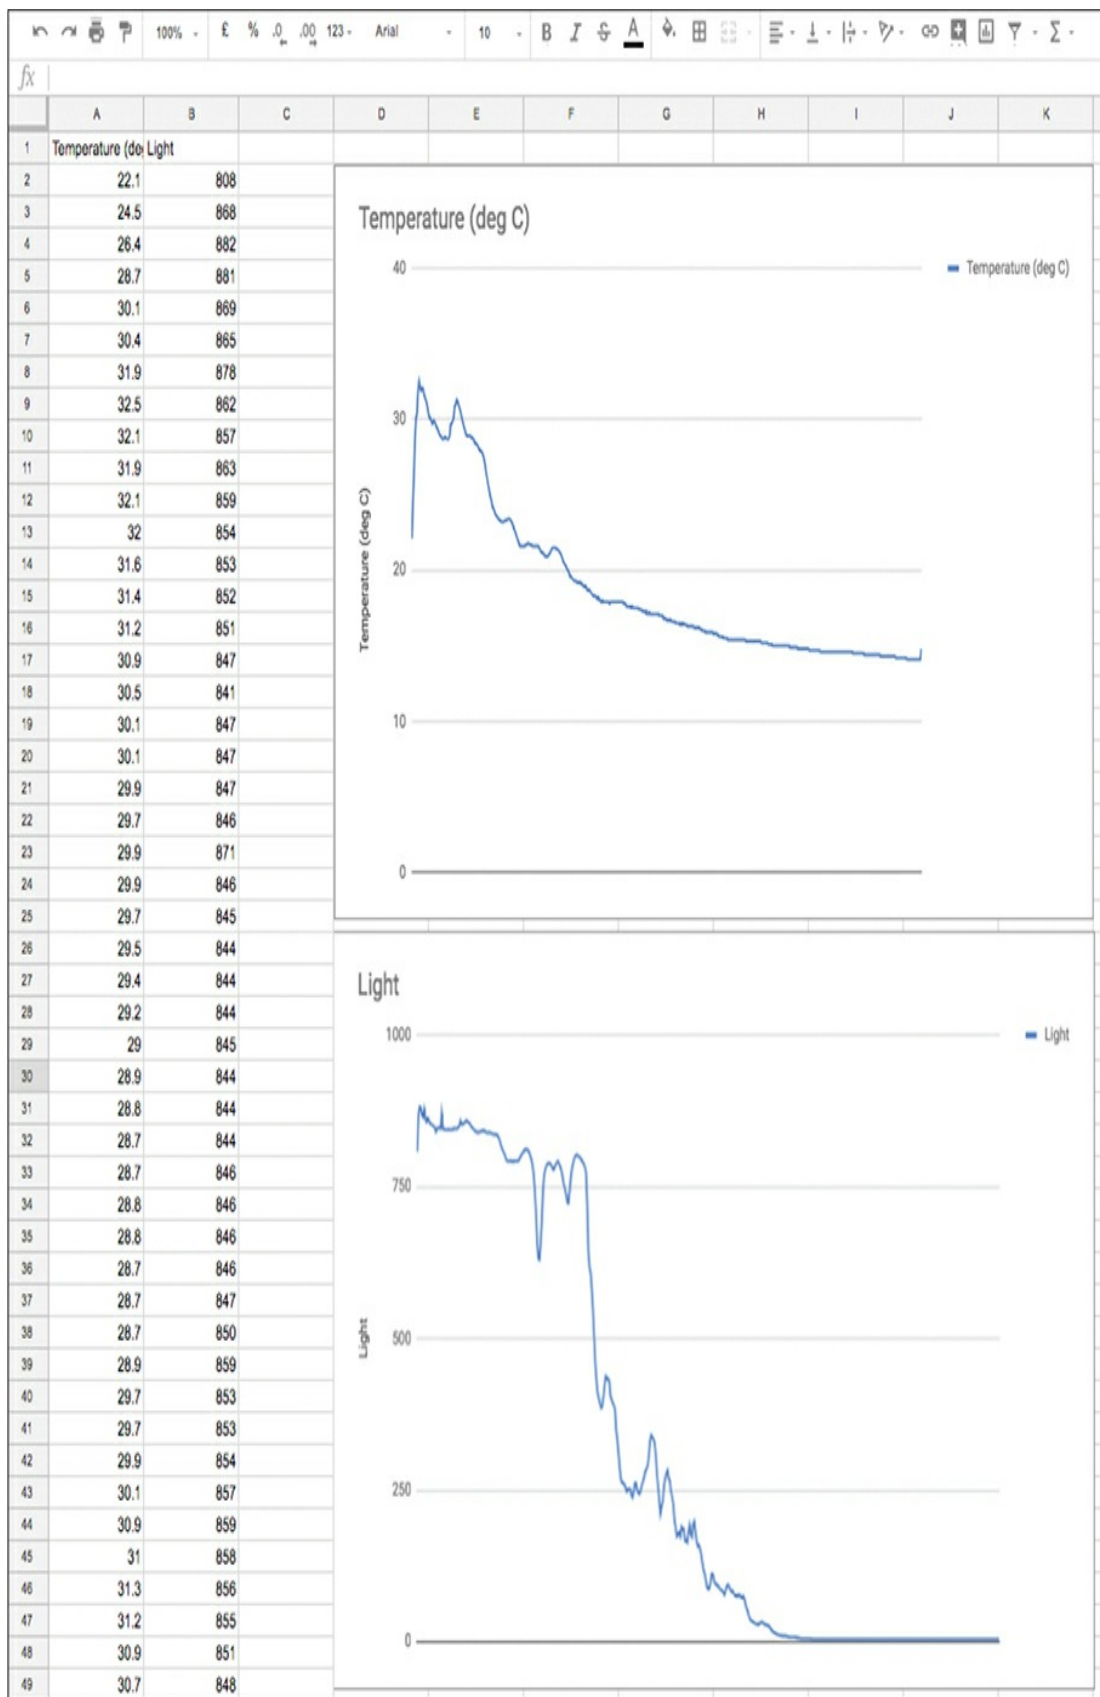

Figure 9-4: Charting temperature and light
6. To make sense of the data, you'll probably want to import it into a spreadsheet and draw some charts like the one in Figure 9-4. See Experiment 7 in Chapter 5 for an example of importing data from the *data.txt* file into Google Sheets.
In Figure 9-4, the steep drop of the line in the light chart indicates the nightfall.